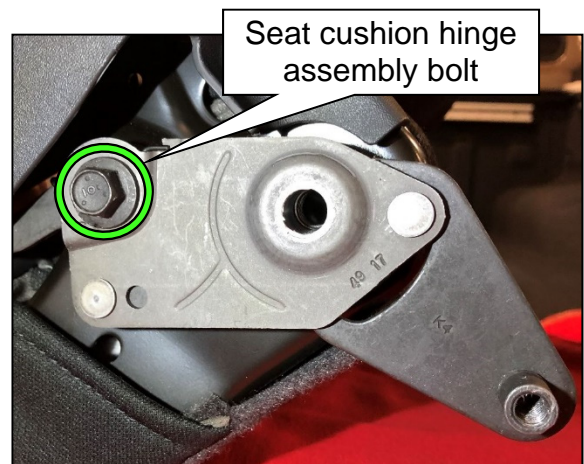

Figure 9
10. Install the new seat cushion hinge assembly and finger tighten the one (1) existing bolt (Figure 9).